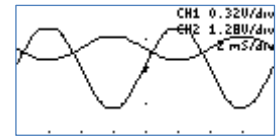

Figure 67: BJT Measurements
- 6) Increase the AWG offset until the CH2 wave is centered on the display. The display should look like figure 67.